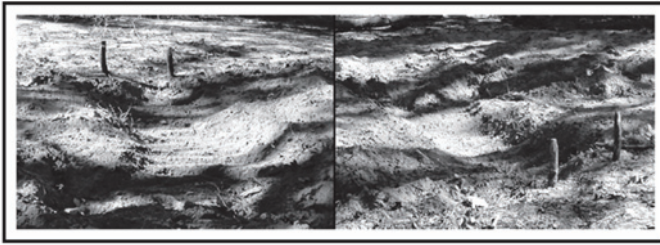

Figure 071-COM-4408-1.
- (1) Lie prone or on your side.
- (2). Report the situation immediately to the section or team leader.
- (3). Scrape the soil underneath or beside you with an entrenching tool.
- (4). Pile the soil in a low parapet between yourself and the enemy
- c. Construct a prone fighting position (Figure 071-COM-4408-1).